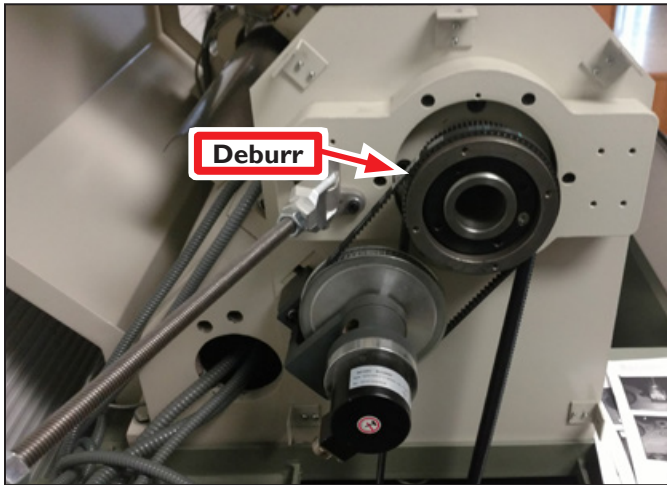

Figure 7
7. Using machinist's stone or similar, lightly stone the back of the Index Ring/Adapter assembly and the face of the spindle pulley (see **Figure 7**) to remove burrs. Presence of burrs may cause runout.